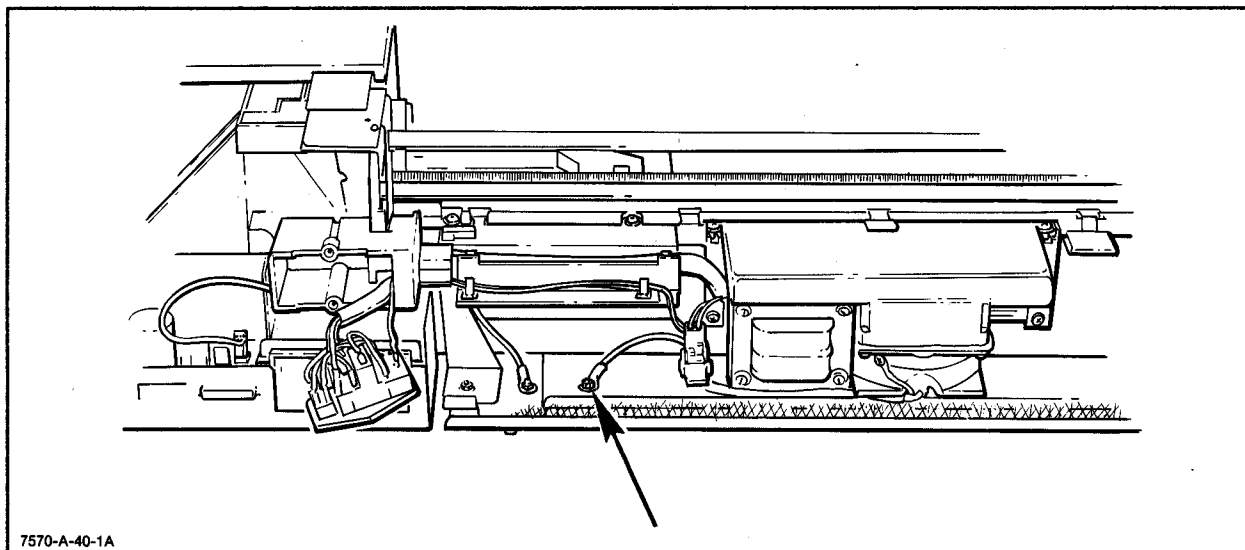

Figure 6-40. Ground Cables
- e. Remove the nut securing the module ground cable (54) to the plotter. See Figure 6-40.